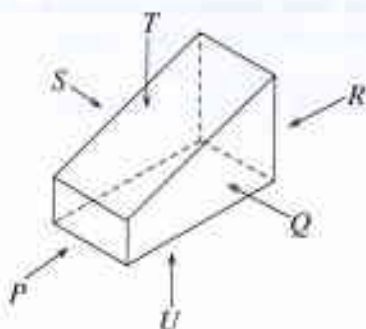
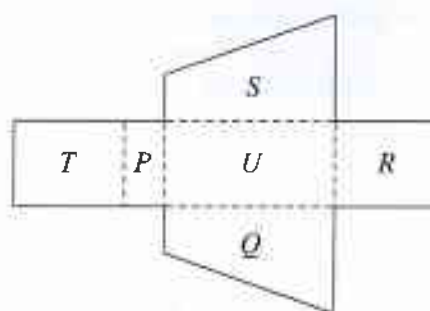

Figure 1
Figure 2
(1)	100	80	40
(2)	120	80	20
(3)	150	70	80
(4)	160	90	50
7. Figure 1 shows a three dimensional shape of a box and its development is shown in figure 2.